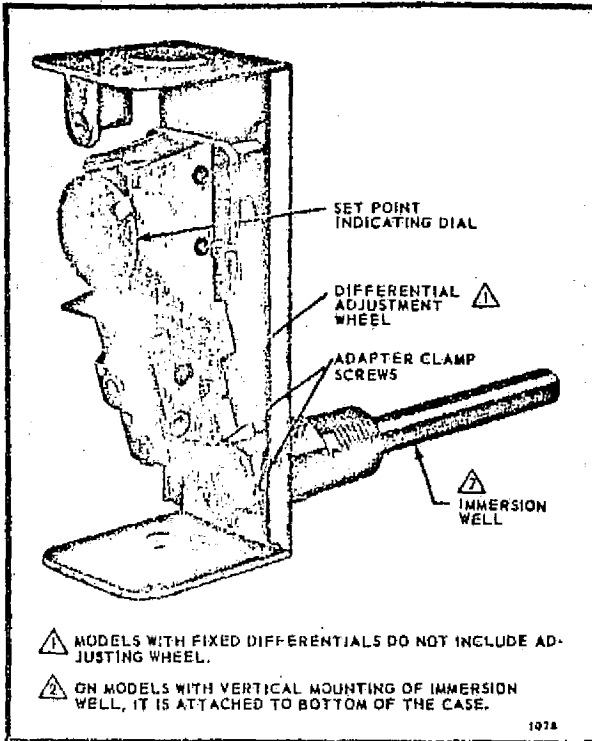

FIG. 11—INTERNAL VIEW OF L6006A.
- a. Loosen screw (at top of case, above scale-setting), and remove cover. Loosen two screws that secure adapter clamp. See Fig. 11.